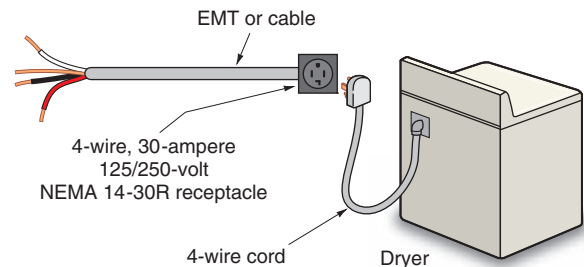

FIGURE 15-4 Dryer connection using a cord set. (Delmar/Cengage Learning)
Probably the most common method is to install a 4-wire, 30-ampere receptacle on the wall behind the dryer. A 4-wire, 30-ampere cord (“pigtail”) is then connected to the dryer. This arrangement is referred to as a “cord-and-plug connection” and is shown in Figure 15-4. In conformance to *210.23*, the connected load shall not exceed the branch-circuit rating.
Figure 15-4 shows a 30-ampere, 4-wire receptacle configuration for an electric clothes dryer installation in conformance to the latest *NEC*. Figure 15-5 shows (A) a surface-mount 4-wire receptacle and (B) a flush mount 4-wire receptacle.